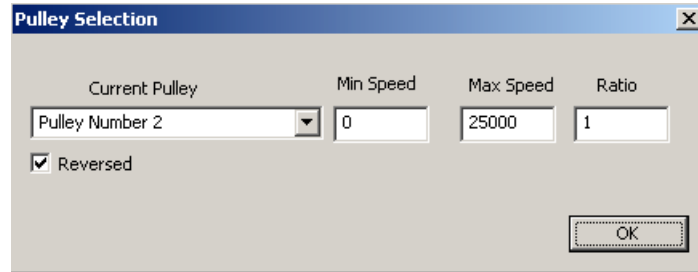

Figure 6 – Mach3 Spindle Motor Tuning Configuration
- (5) Go to the "Config", "Spindle Pulleys" menu. Mach3 shows you the currently selected pulley, along with the minimum and maximum spindle speed. These are the min and max values that you can use for the "S" command to set the spindle speed. Change them if you want, or at least make note of the values (see Figure 6). Click on "OK".
- (1) Go to the Mach3 "MDI" screen (click on the "MDI" tab along to top of the screen or press the ALT key along with the number "2" key).
- (2) Press ENTER or click in the box to the left of "INPUT" to highlight the command input window.
- (3) Enter an "S" command to set the spindle speed to same value. For example, "S5000" sets the spindle speed to 5000 rpm). Press ENTER to finish the command. Note that the value you enter must be between the "Min Speed" and "Max Speed" values in your pulley configuration (see Figure 6). In our example, a speed of 5000 should generate a control voltage of 1/5th of full scale coming out of the PMDX-106 or PMDX-107.
- (4) Now enter an "M3" command (type M3 then press ENTER). The PMDX-106 or PMDX-107 should show that the "FWD" LED and relay are on and the PWM LED should be glowing.
- (5) Enter an "M4" command and the PMDX-106 or PMDX-107 should show the "REV" LED on.
- (6) Enter an "M5" command and the PMDX-106 or PMDX-107 should turn off the relays and the PWM LED should turn off.